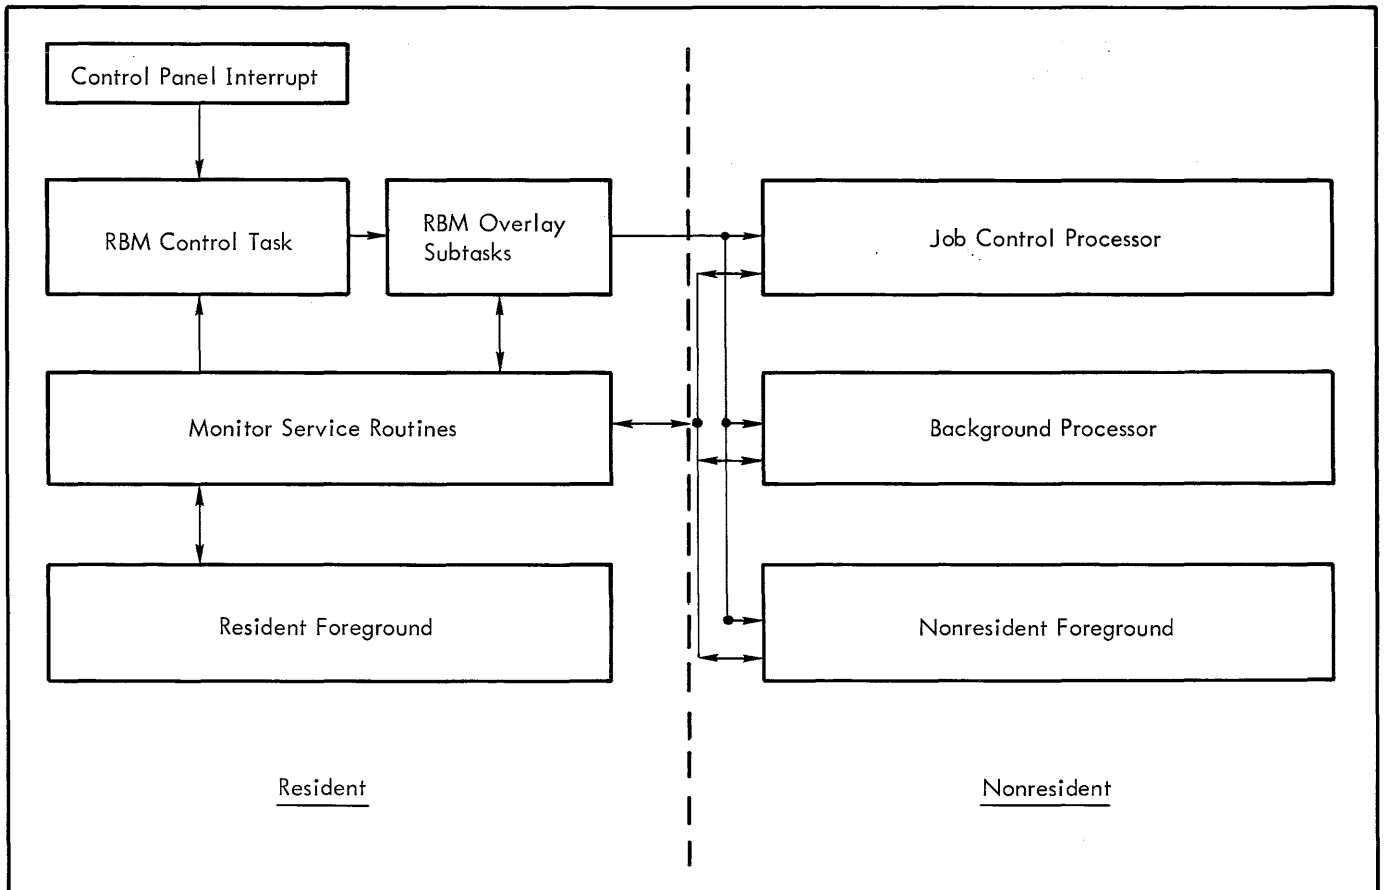

Figure 1. Operating System
- Partitioned core memory (see Figure 1) divided into
- A protected foreground area reserved for (1) resident real-time foreground programs, (2) a single